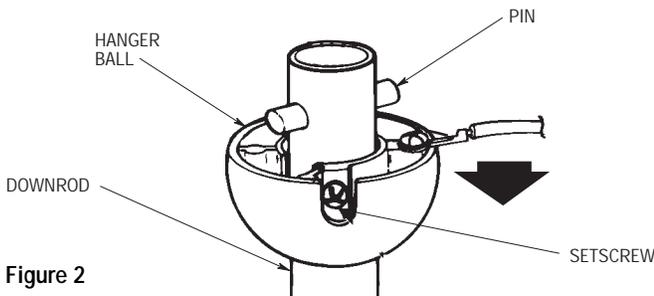

Figure 2
3. Remove the hanger ball by loosening the setscrew in the hanger ball until the ball falls freely down the downrod (Figure 2). Remove the pin from the downrod, then remove the hanger ball. Retain the pin and hanger ball for reinstallation in step 6.